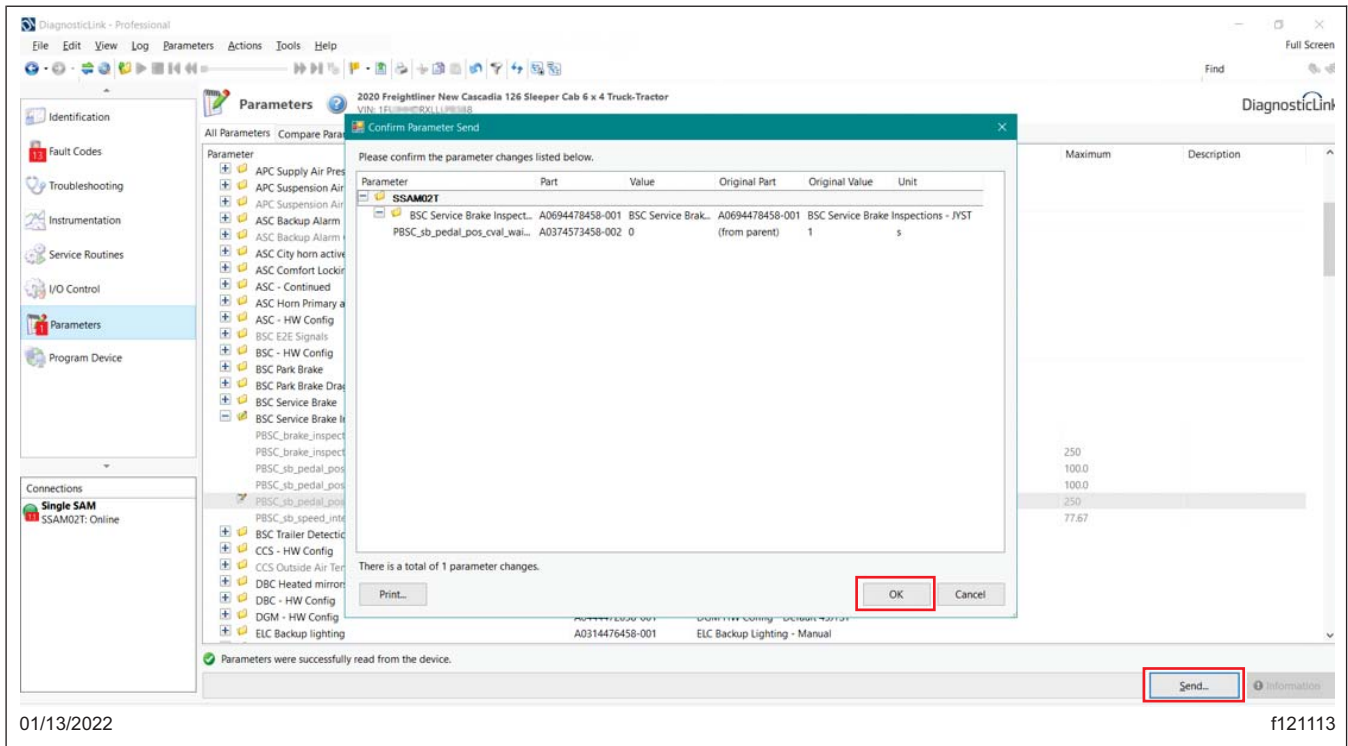

Fig. 9, Selecting Send Button and Confirming Parameter Send
10. Select the 'Send' button to write the parameter changes to the sSAM ECU in the vehicle. A window will open asking to confirm the parameter change, select 'OK.' See Fig. 9.